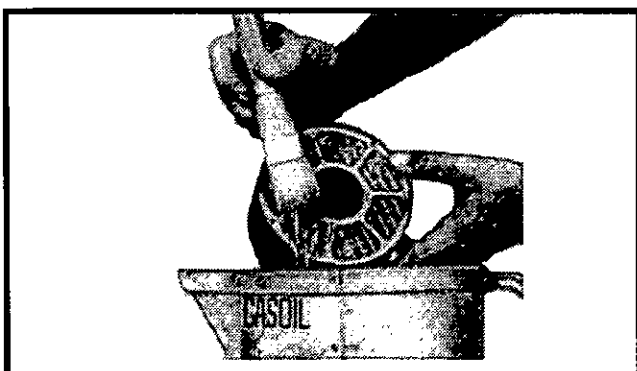

Figure 5-7 Cleaning the Oil Bath Filter Element
3. Using an appropriate brush wash the filter element in clean diesel fuel, taking care to protect the skin from contact with the diesel/oil mix, (Figure 5-7), to remove any dirt accumulation.